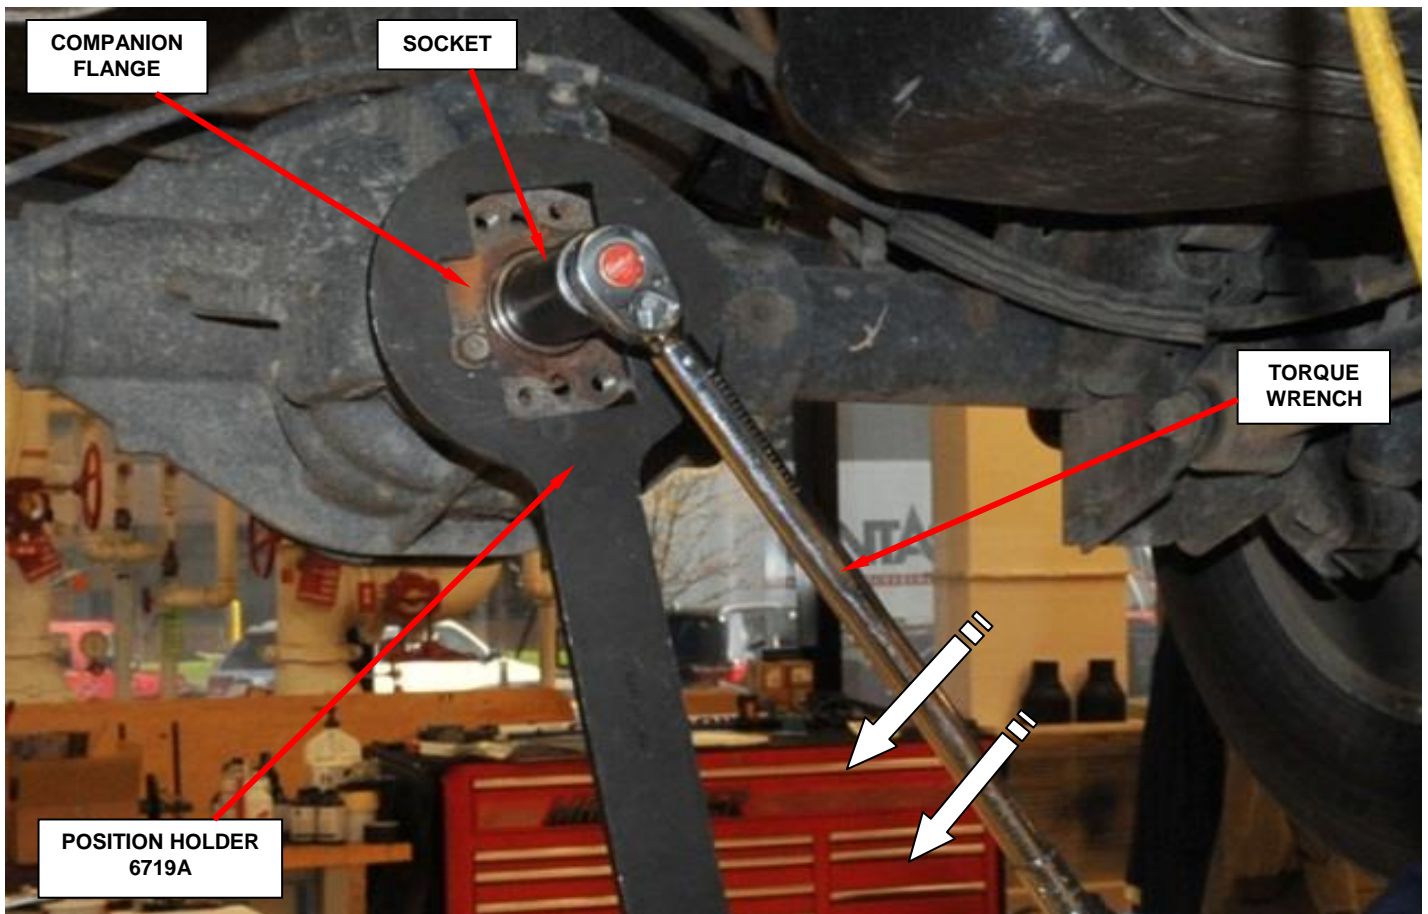

Figure 4 - Attempt to Tighten Pinion Nut
8. Using a torque wrench, tighten the pinion nut to 50 ft. lbs. (68 N·m) (Figure 4).